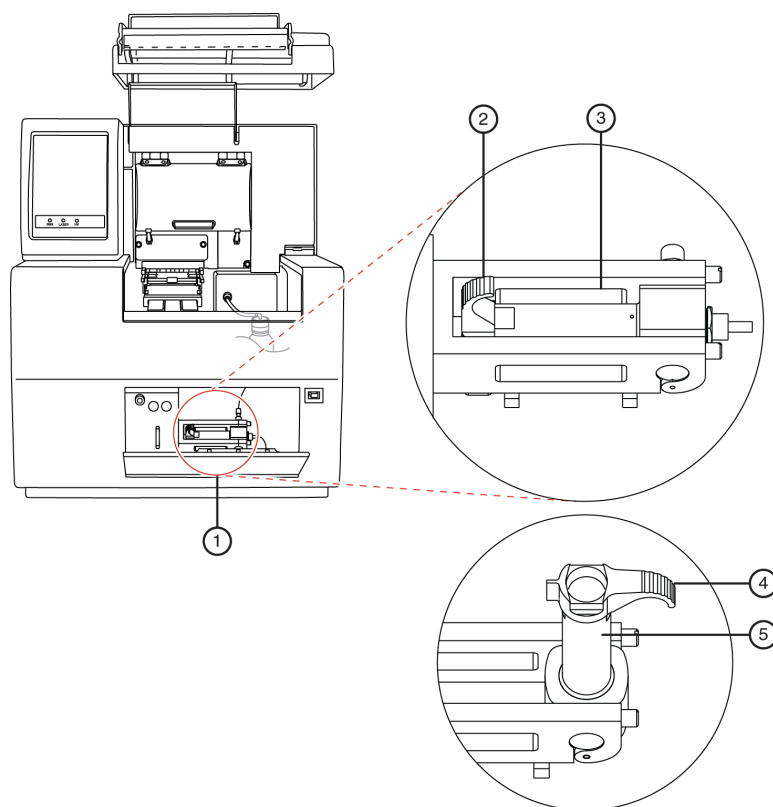

Figure 3.52 Removing/Replacing the Gel Cartridge
2. Open the Gel Pump/Gel Cartridge Access Cover (Figure 3.52) by gently pushing in on the top of the cover. (The cover is spring-loaded and will pop open.)